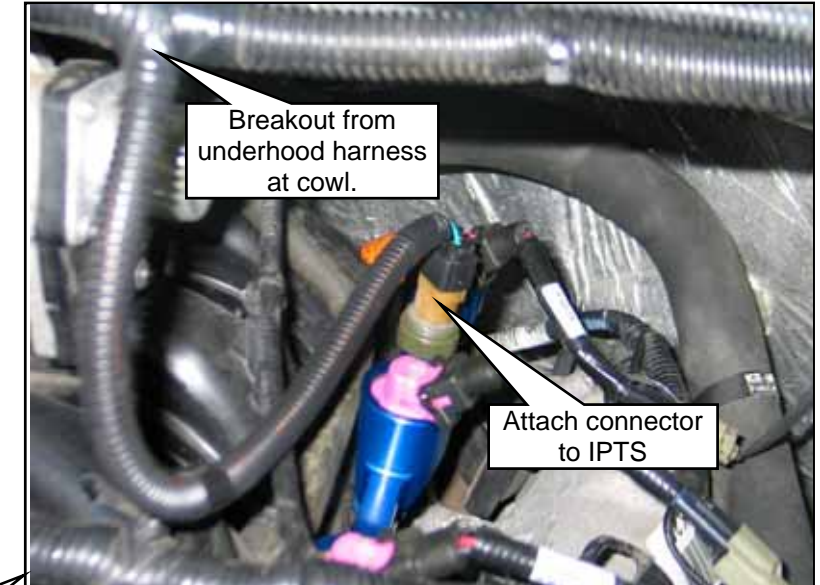

Figure 16.3
10. Route the harness breakout with the integrated pressure temperature sensor (IPTS) connector (on right fuel rail) along the top left of the engine. Attach the breakout harness connector to the sensor. **Figure 16.3.**
13. Reposition the battery tray, install the five bolts and tighten to secure. Install the fender bolt to secure both the top of the battery tray and the rear end of the SRM bracket. Tighten the bolt to 18–21 Nm. **Figure 16.3.**